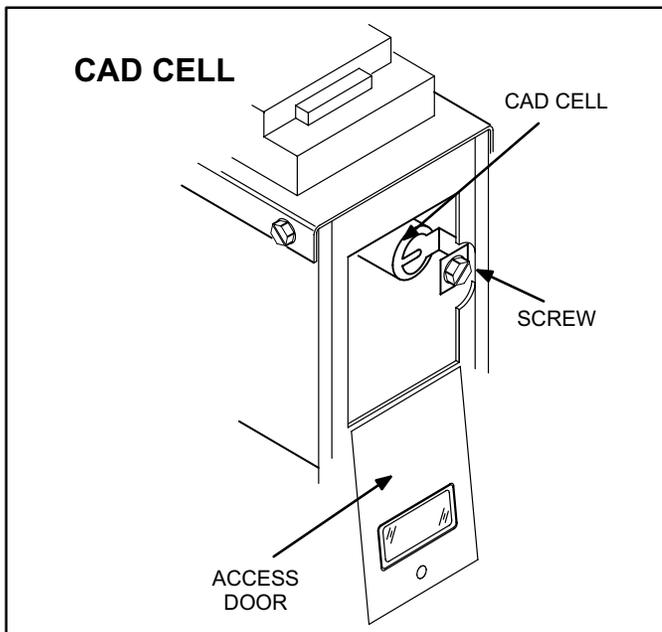

FIGURE 21
- 2- The cad cell will be located on the right side of the chassis wall hung on a bracket. See figure 21.